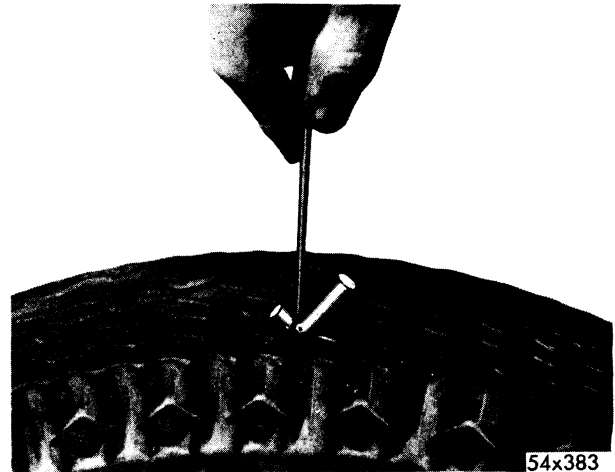

Fig. 13—Inserting Needle and Plug in Puncture
- (3) Dip the repair plug and needle into the cement and immediately insert in the hole with a firm, steady motion. If needle appears to be blocked, do not attempt to force it and the repair plug into the hole. Otherwise, additional damage may result. Carefully locate the direction of the hole and insert needle until short end of repair plug snaps through tire (Fig. 13, 14 and 15).